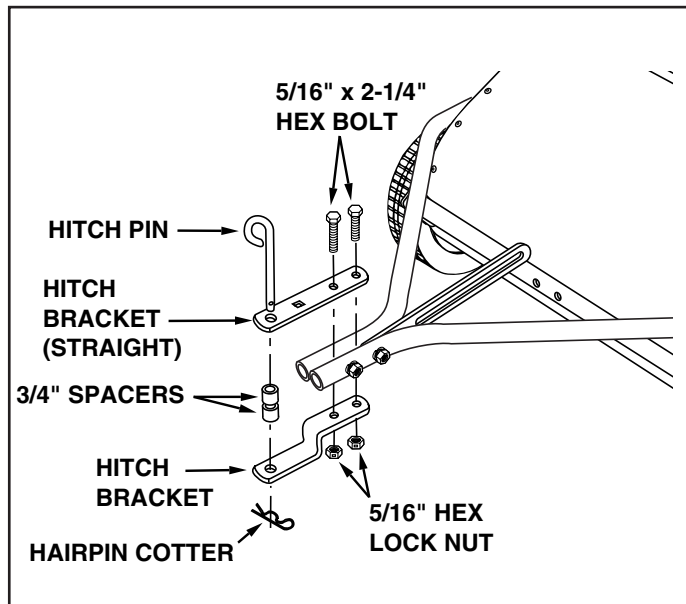

FIGURE 4
7. Assemble the bent hitch bracket to the bottom and the straight hitch bracket on top of the hitch tubes. Fasten with two 5/16" x 2-1/4" hex bolts and two 5/16" hex lock nuts as shown in figure 4. The bolts should straddle the front hitch tube bolt. **Do not tighten yet.**
9. Assemble the hitch pin, two 3/4" spacers and the 1/8" hairpin cotter to the hitch brackets. See figure 4.